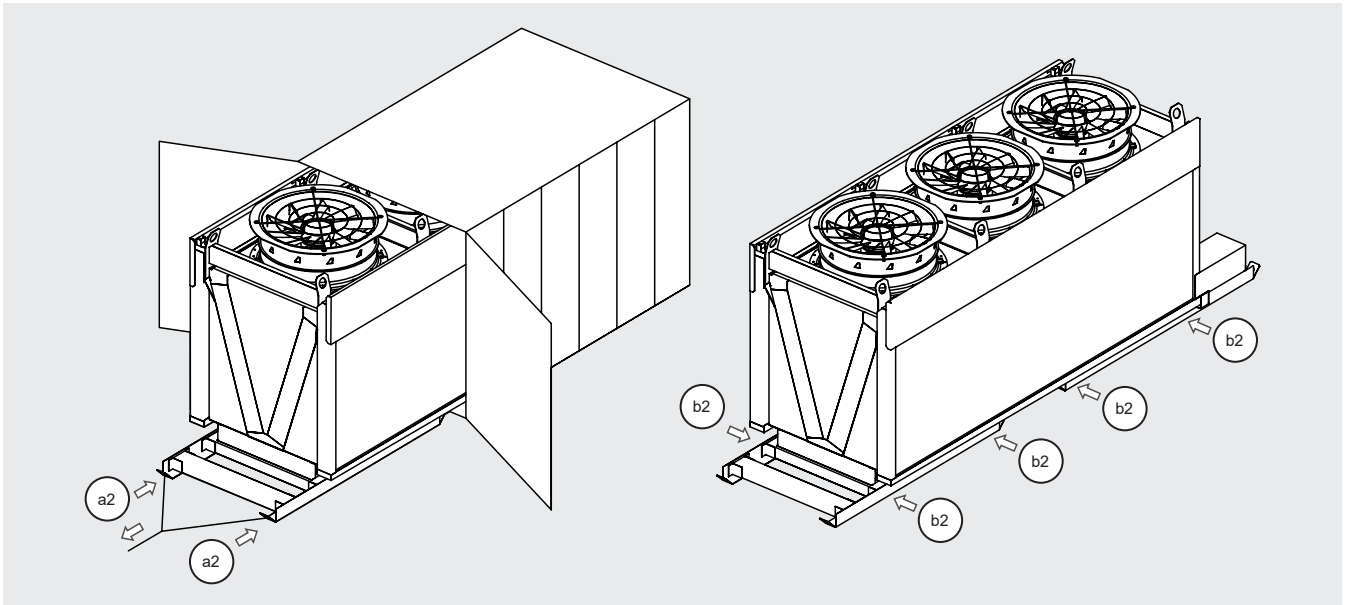

Figure 6
- 5.4 If the model has been shipped within a container, use the two eyebolts (a2) to pull the model out. Pull slowly without jerking. Use a forklift truck (positioned at the side) or equivalent to pull the model out of the container. Unscrew bolts (b2) to free the slide. See Figure 6.